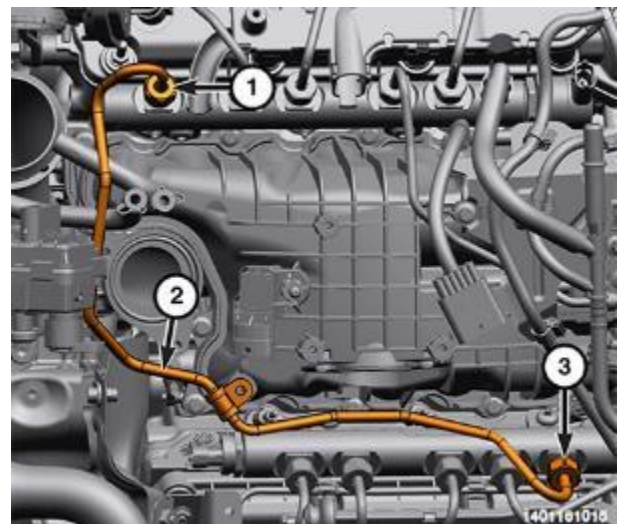

Figure 116 – Crossover Tube Bolt
- 47. Unscrew the union nuts (1 and 3) and remove the fuel crossover tube (2) and discard (Figure 116).